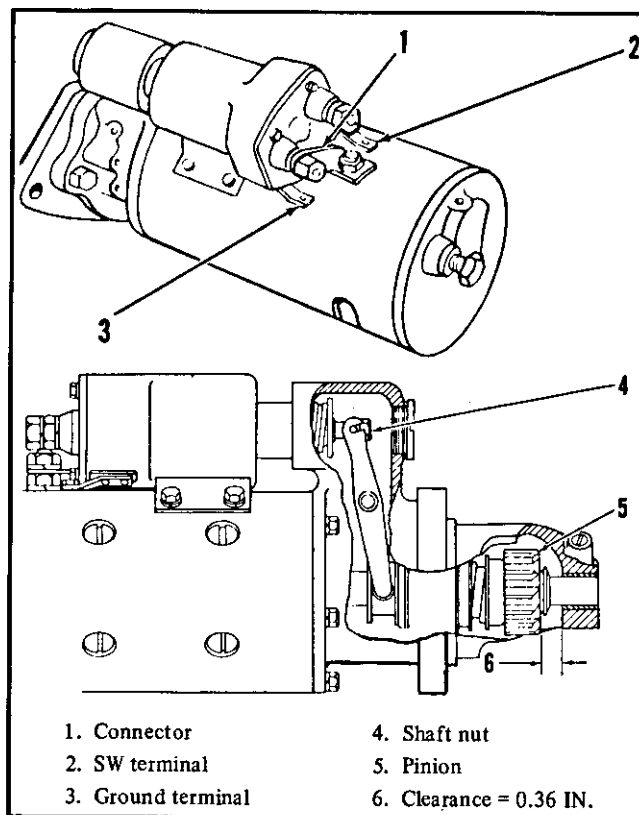

Figure 3-2. Checking and adjusting pinion clearance
1. Install the solenoid without connector (1, figure 3-2) from the MOTOR terminal on solenoid to the motor.
2. Connect a battery, 24 volts, to the terminal (2), marked SW.
3. Connect the other side of battery to ground terminal (3).
6. Pinion clearance (6) should be 0.36 inch.
7. Adjust clearance by removing plug and turning shaft nut (4).